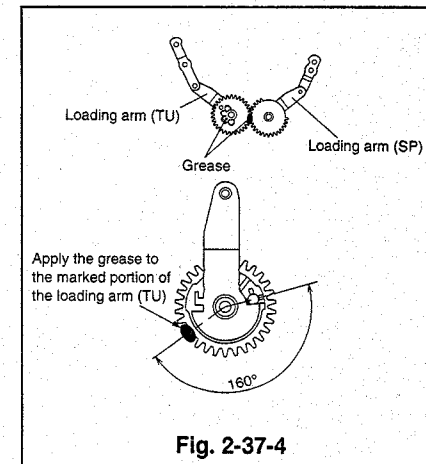

Fig. 2-37-4
- Apply grease (G)[859D055O50] to the area that touches the cogwheel of the loading arm (TU) when the loading arms (SP and TU) are shifted fully to the loading direction. Apply grease (G)[859D055O50] to the gear portion that meshes with the plate cam B. (Refer to Fig.2-37-4.)